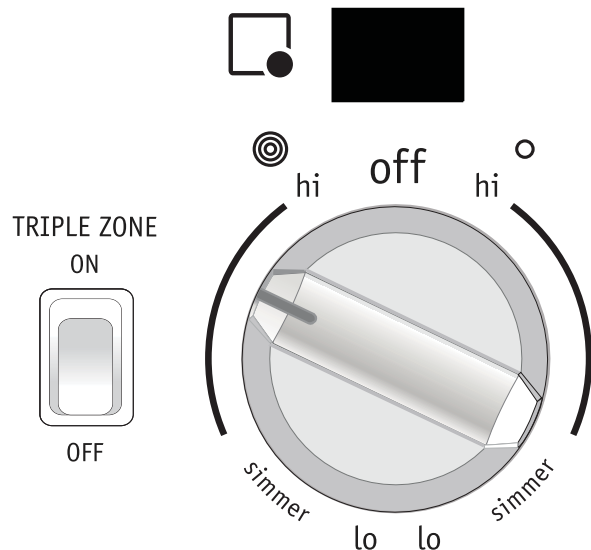

Figure 11: Triple radiant element
2. Push in and turn the control knob to the inner element symbol for smaller cookware or to inner and outer element symbol for larger cookware (See Figure 11). Turn the knob to adjust the setting if needed. Start most cooking operations on a higher setting and then turn to a lower setting to finish cooking. Each surface element provides a constant amount of heat at each setting. A glowing red surface heating area extending beyond the bottom edge of the cookware indicates the cookware is too small for the surface heating area.
3. To activate and use the triple element, push in and turn the knob to the left for the outer element symbol for larger cookware. Push the **Triple Zone** switch to the ON position (See Figure 11).